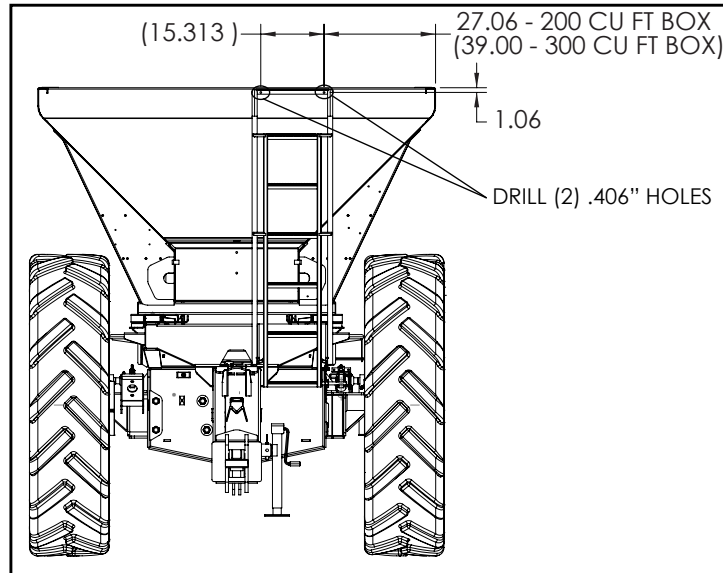

Figure 20 - Secure Upper Bracket
1. Drill two (2) .406 inch (13/32") diameter holes for upper bracket in the positions shown in Figure 20. The midpoint between the two holes aligns with the midpoint between the two brackets on the subframe.